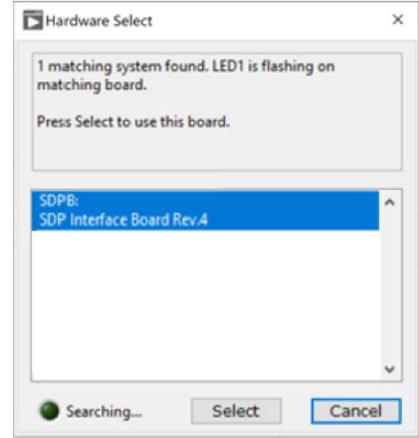

Figure 9. Hardware Detection
- ▶ To use the board, connect the setup to the computer using a USB cable. Once connected, the software automatically detects the hardware, and user can select it for use (see Figure 9).